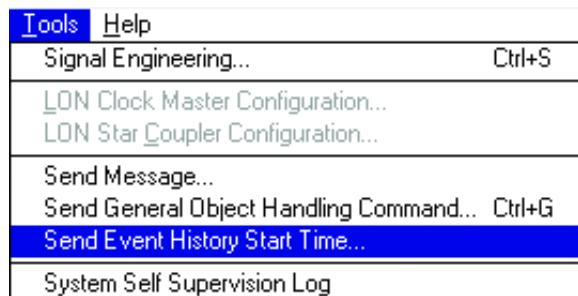

Figure 37: Send Event History Start Time is selected from the Tools menu
2. From the menu bar, select **Tools/Send Event History Start Time**. See Figure 37.